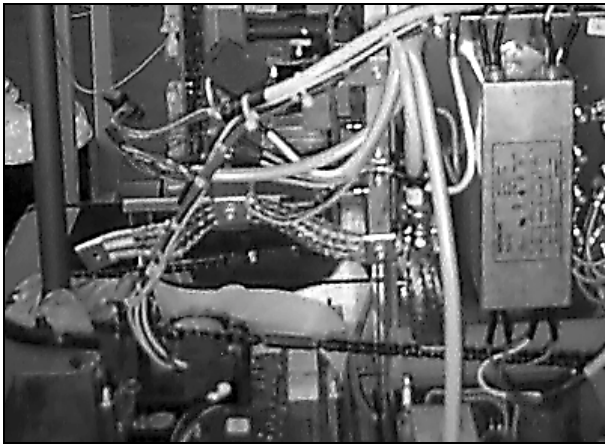

Fig. 3
- Remove the grounding bracket from the heat sink. The heat sink remains on the board (1/Fig.3).